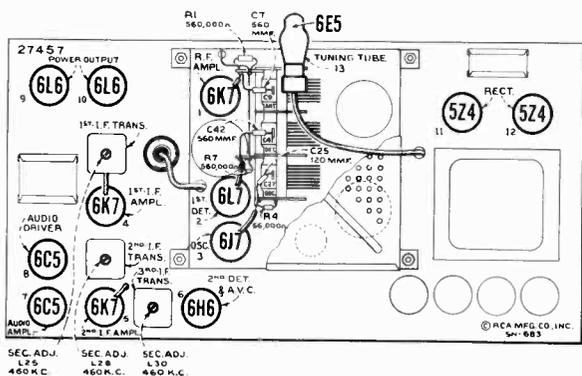

Figure 1—Radiotron and I-F Trimmer Locations
- (c) Adjust the two magnetite core screws L30 and L29 (see figures 1 and 10) of the third i-f transformer (one on top and one on bottom) to produce maximum vertical deflection of the oscillographic image. This adjustment places the transformer in exact resonance with the 460 kc signal.